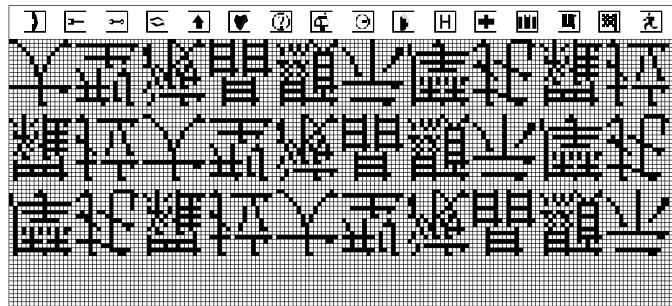

Figure 8c: Row remap enable
2. Row(0) - Row(Mux ratio-2) of GDDRAM mapped to COM(first display row location+Mux ratio-2) - COM(first display row location). Example is illustrated in figure 8c, Row0 - Row51 of GDDRAM is mapped to COM51 - COM0.
- 2) Enable row re-mapping shown in Figure 8c,